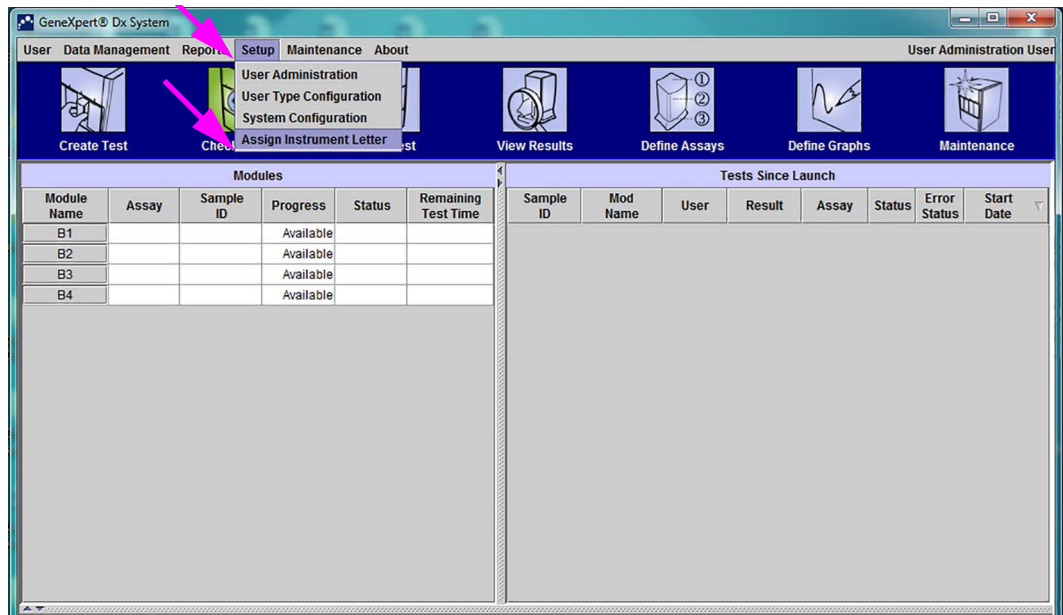
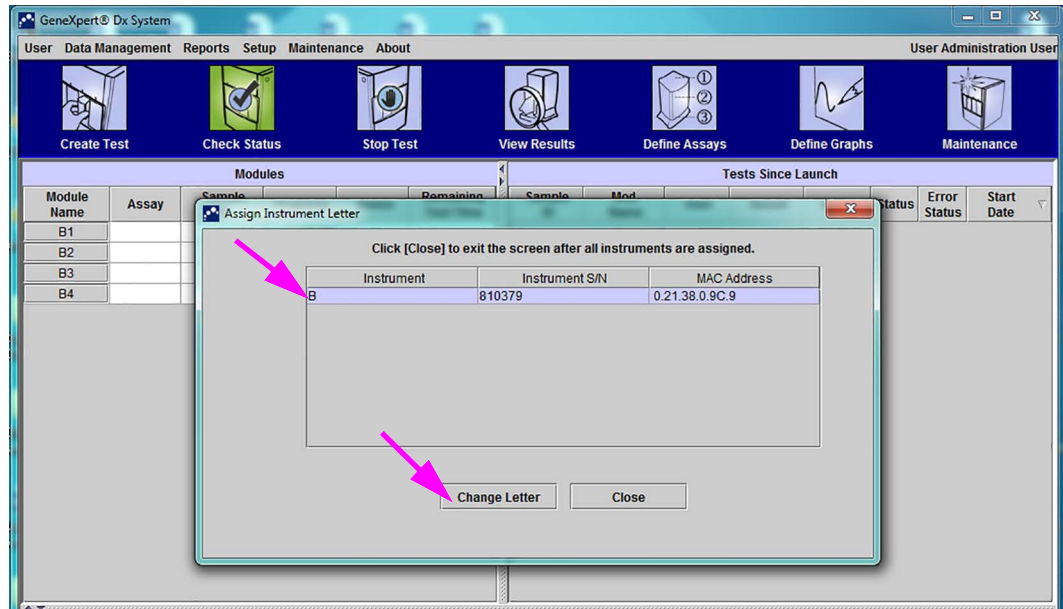

Figure 2-36. GeneXpert Dx System Window, showing the Setup Drop-Down Menu
Figure 2-37. GeneXpert Dx System Window with Assign Instrument Letter Dialog Box Overlay
3. In the Test Archive Reminder box, click **NO** to proceed (see Figure 2-36). The GeneXpert Dx System screen appears (see Figure 2-37).
Before starting to use the GeneXpert Dx system software, the GeneXpert Dx system administrator and other system users must be defined. All the administrator functions are accessible from the Setup menu in the GeneXpert Dx System window. See Figure 2-36.